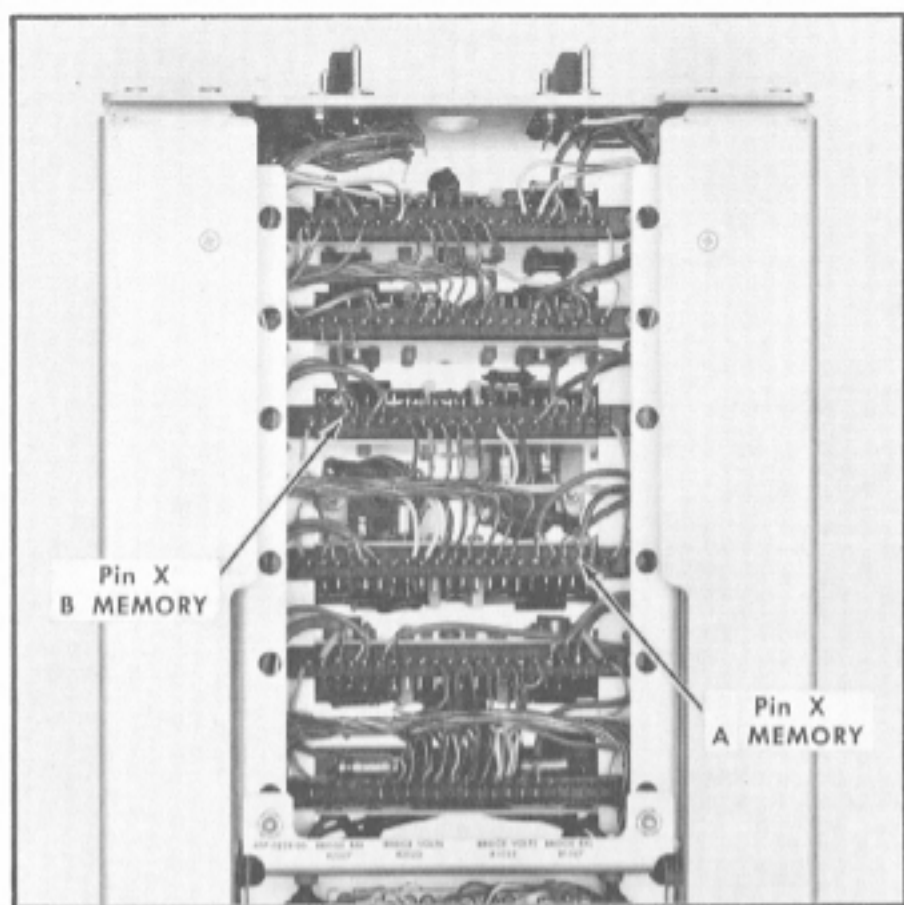

Fig. 6-25. Location of Pin X and A and B Memory connectors.
- b. Connect the 10 \times Probe tip to pin X on the A Memory connector, as shown in Fig. 6-25.